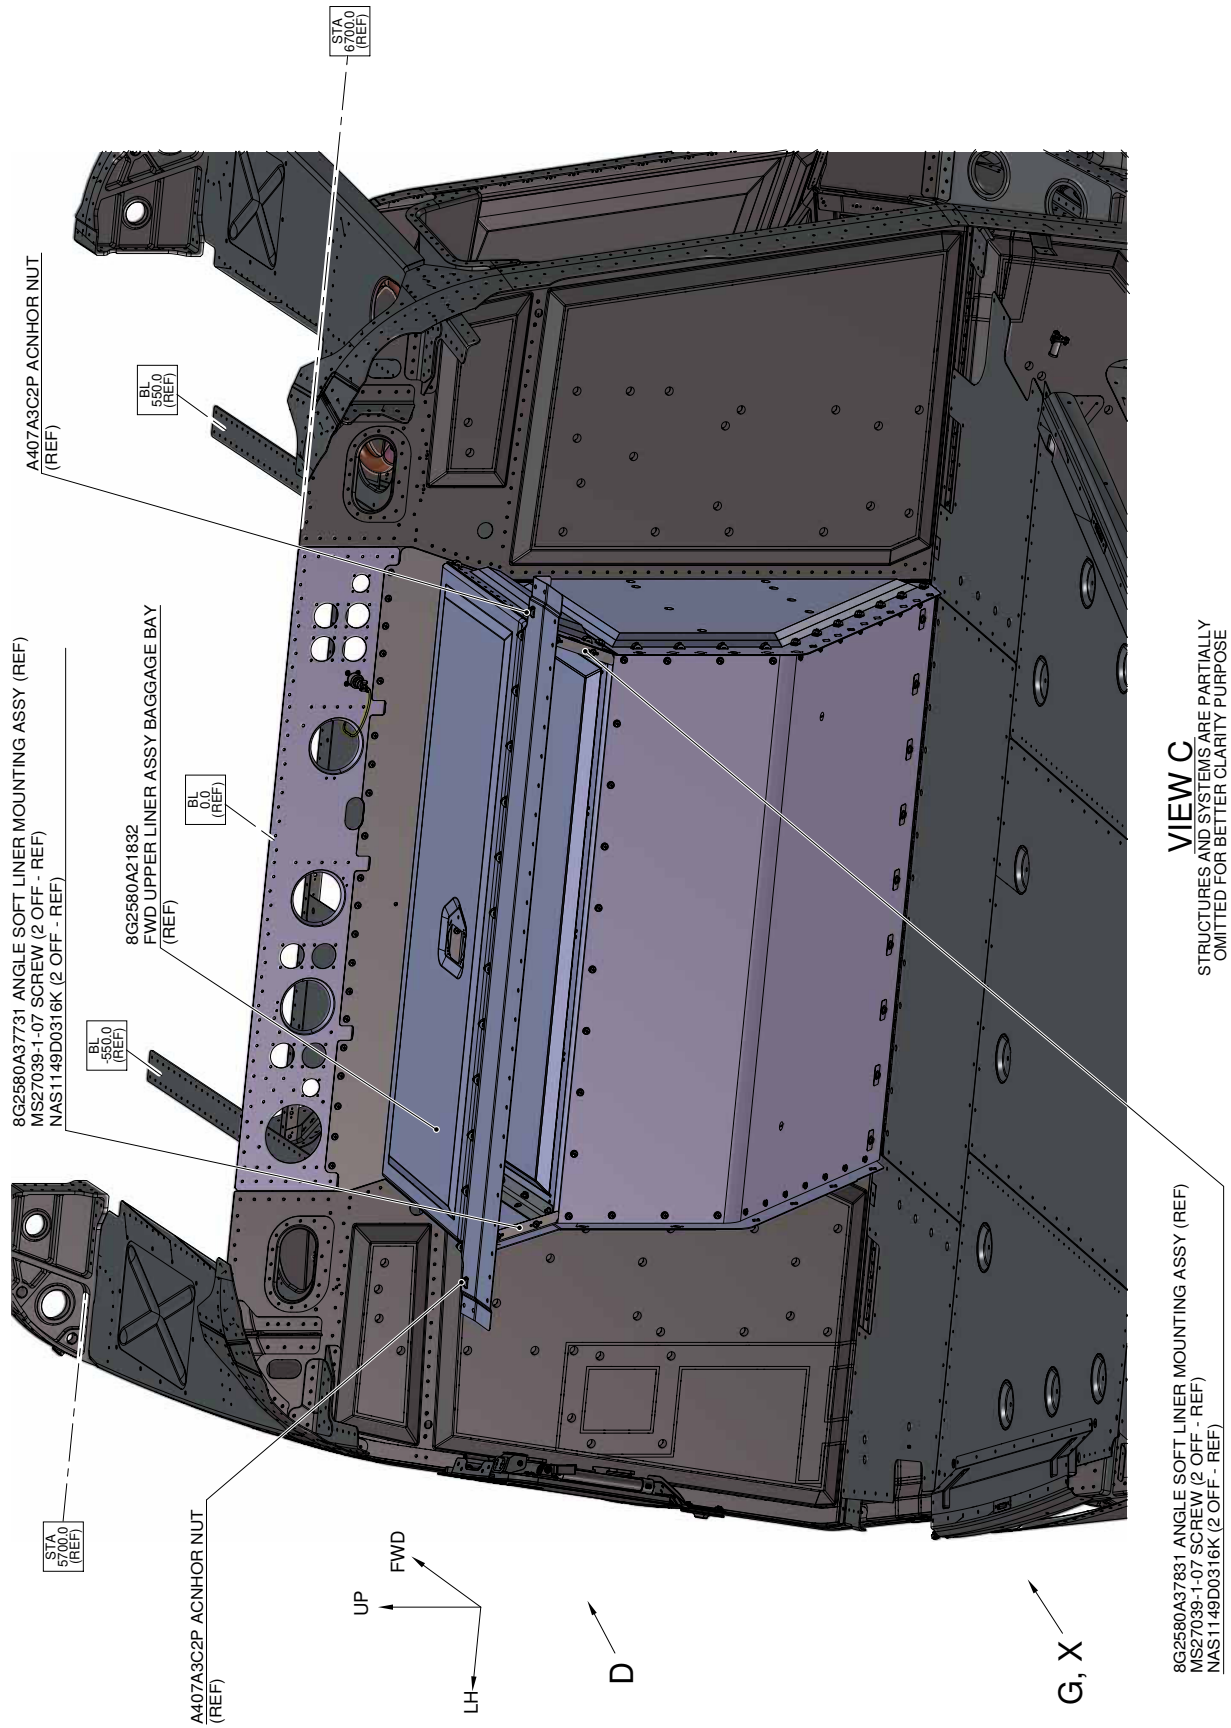

Figure 4
- 3.11 With reference to Figure 4 View C, remove the angle soft liner mounting assy P/N 8G2580A37731 with the related hardware. Retain for later re-use.
- 3.12 With reference to Figure 4 View C, remove the angle soft liner mounting assy P/N 8G2580A37831 with the related hardware. Retain for later re-use.
- 3.13 With reference to Figure 4 View C, remove the FWD upper liner assy baggage bay P/N 8G2580A21832 with the related hardware. Retain for later re-use.
16. With reference to Figure 4 View C, re-install the angle soft liner mounting assy P/N 8G2580A37731 by means of the previously removed hardware (Ref. step 3.11).
17. With reference to Figure 4 View C, re-install the angle soft liner mounting assy P/N 8G2580A37831 by means of the previously removed hardware (Ref. step 3.12).
18. With reference to Figure 4 View C, remove n°2 anchor nuts P/N A407A3C2P from the previously removed upper panel assy baggage bay P/N 8G2580A21832 (Ref. step 3.13).
19. With reference to Figure 4 View C, re-install the upper panel assy baggage bay P/N 8G2580A21832 by means of the previously removed hardware (Ref. step 3.13).